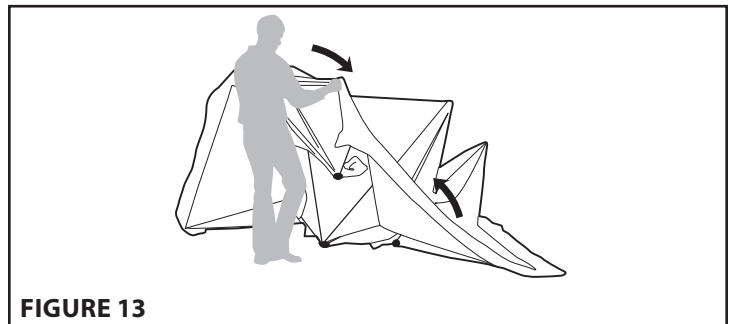

FIGURE 13
6. The tent will now be back in its flat stage just as it was when it was unfolded out of the carry bag. Gather all corners of the shelter and fold together. Do not force the tent when folding. Watch for the entanglement of poles. [**SEE FIGURE 13**]